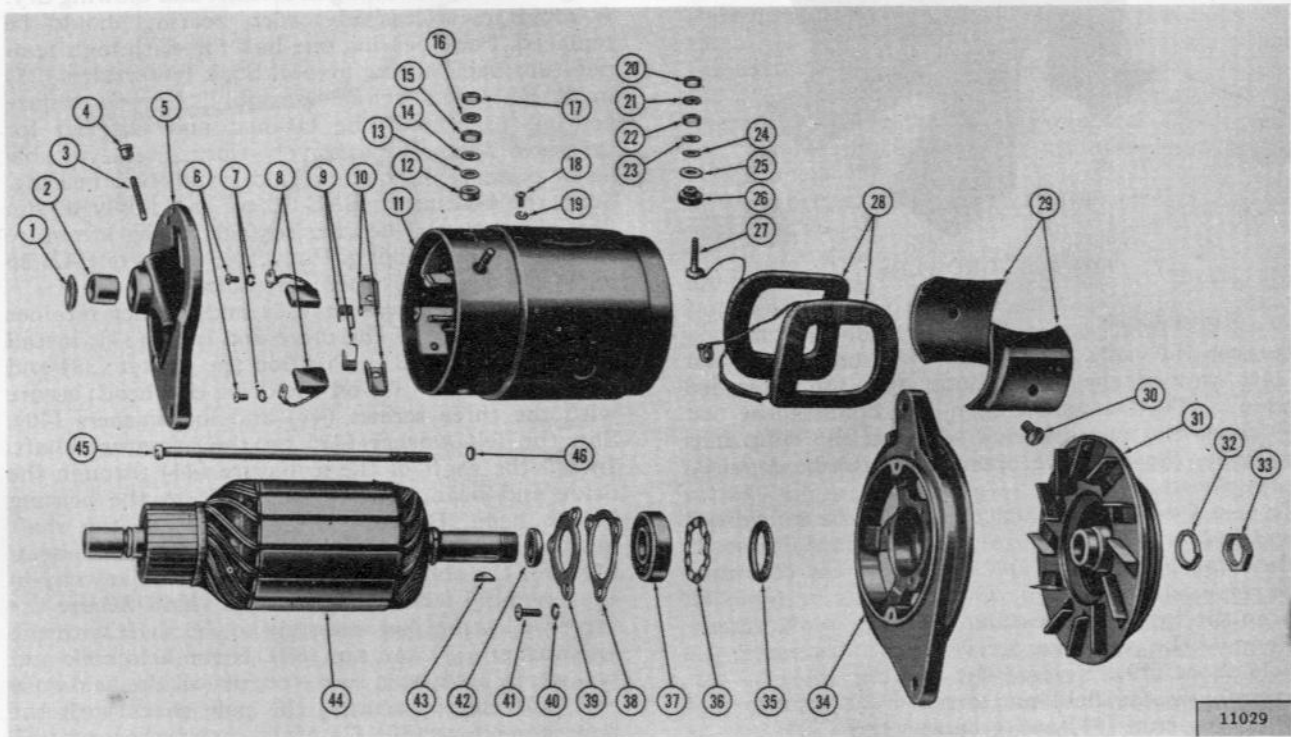

FIG. 177—GENERATOR, EXPLODED VIEW
Check ball bearing (37, Fig. 177) for looseness or roughness after cleaning in solvent and blowing dry. A rough or excessively worn bearing should be replaced. Pack bearing one-half full with high temperature ball bearing grease. Soak felt washer (35) in SAE 30 oil before assembly. Porous bronze bearing (2) should be cleaned and checked for excessive wear. If excessively worn, use a suitable arbor press to remove old and install new bearing. Soak the bearing in SAE 30 oil and apply a thin film of oil to the bearing surface of the armature shaft when assembling. Put 3 to 5 drops of SAE 30 oil in the oilers (4) when assembled.